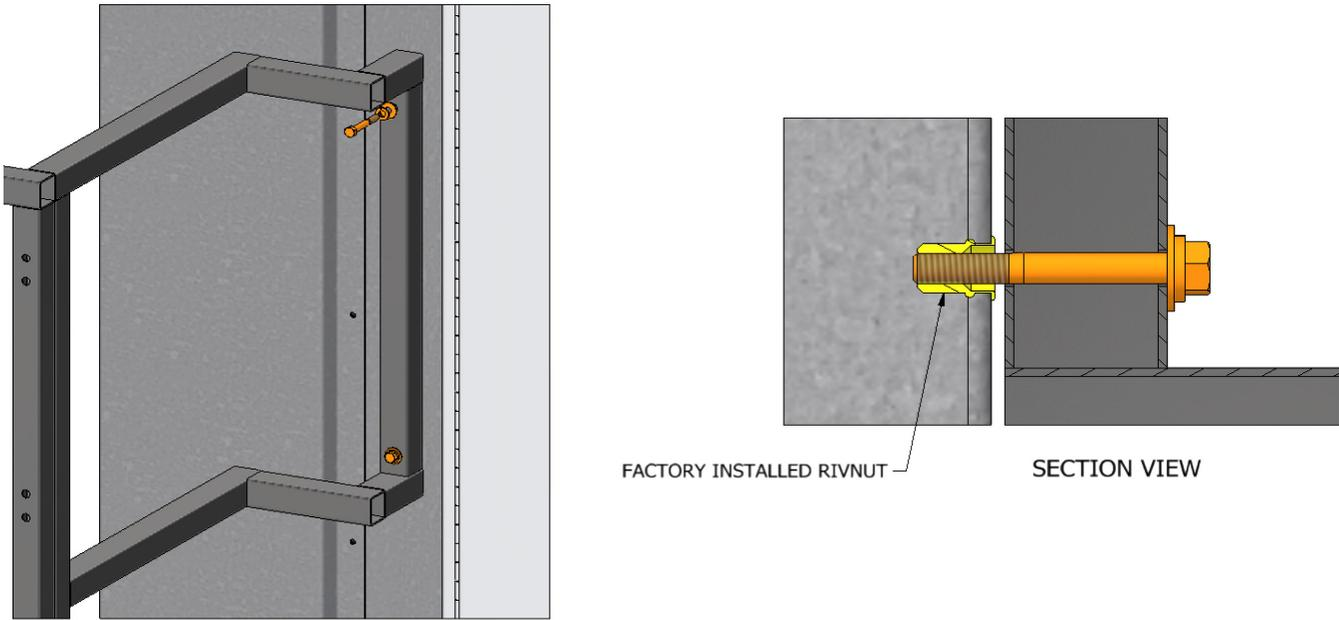

Figure 21. External Platform Handrail to Unit Connection
- Bolt the external platform railing to the unit using 5/16" hardware as shown in **Figure 21**.